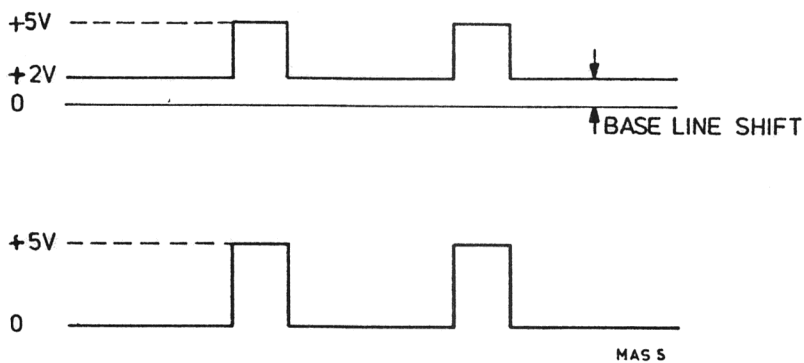

Fig. VI-2 Baseline offset PM 5705
- Rotate the BASE LINE OFFSET control and see the base line shift, fig. VI-2.